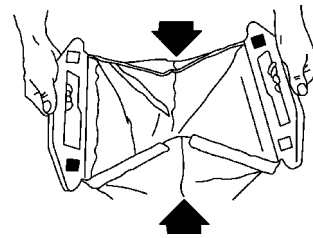

Figure 19
5. Close the rear of the bag by folding the sides in and pressing the interlocking rear handle halves together (Fig. 19).